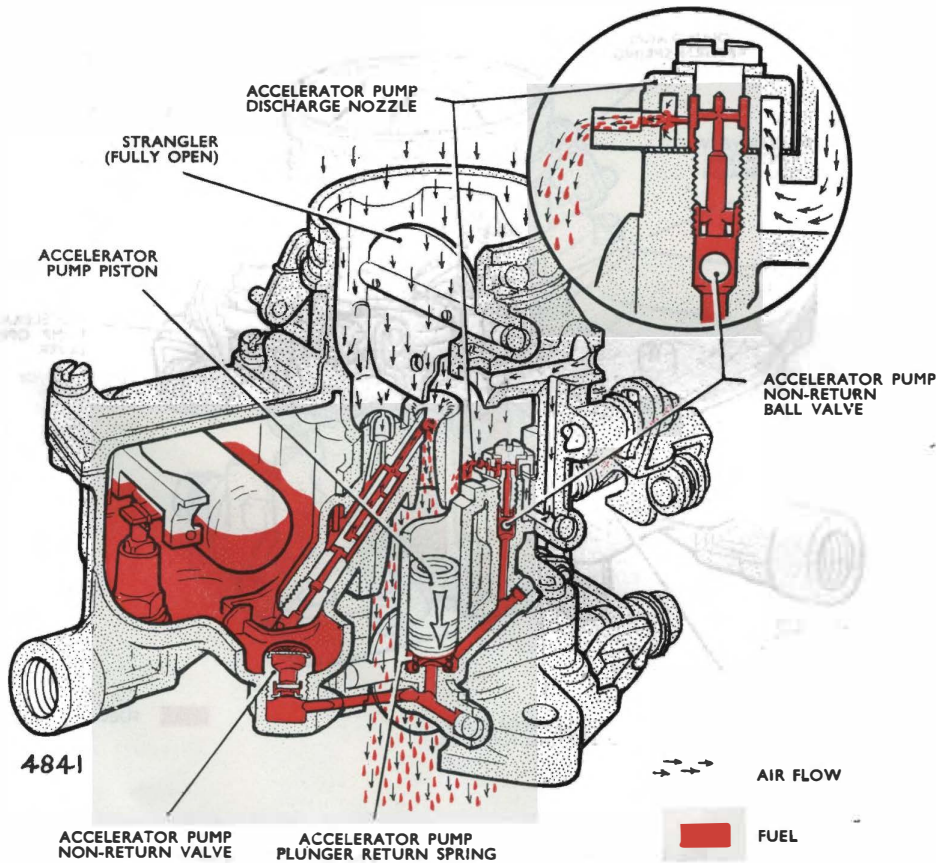

Fig. 13. Accelerator pump operating
Some carburettors are fitted with an accelerator pump nozzle with a sloping end as shown in inset 'A' of Fig. 13. This type of nozzle allows fuel to be drawn from it when the air velocity, past its sloping end, is high enough to create the depression required
The pump discharge nozzle consists of a small die casting shown in section in the inset of Fig. 13. Fuel is fed into the nozzle centre and discharged under
Fig. 13 shows the accelerator pump in action. When this occurs the pump suction valve in the float chamber closes and the delivery valve, a steel ball, is lifted off its seat as shown. There is no spring above the steel ball.
- (f) Check that the ball beneath the screw securing the pump discharge nozzle is in position. See Fig. 13. It can easily be lost in dismantling the carburettor if the body is inverted after removal of the screw securing the pump discharge nozzle, or if the accelerator pump is operated with the screw removed.
- (a) Make certain the calibrated orifice in the pump discharge nozzle and the drillings in the screw securing the nozzle through which the petrol must pass on its way to the pump nozzle are clear. See inset Fig. 13.